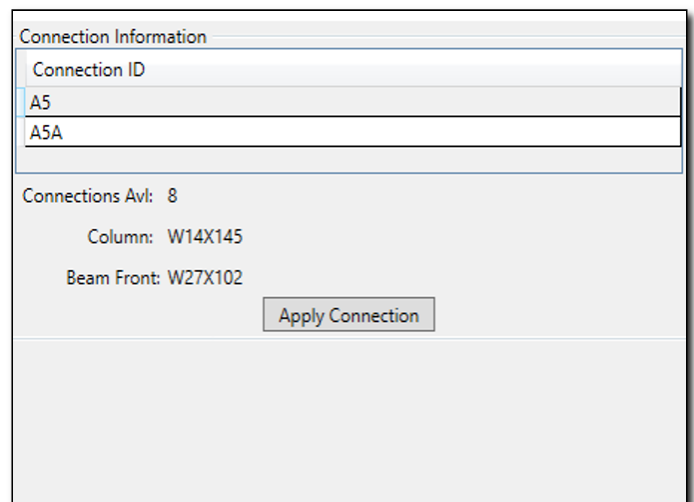

Figure 5: Individual
4. The **SidePlate SDS2** screen will appear as shown in Figure 5.